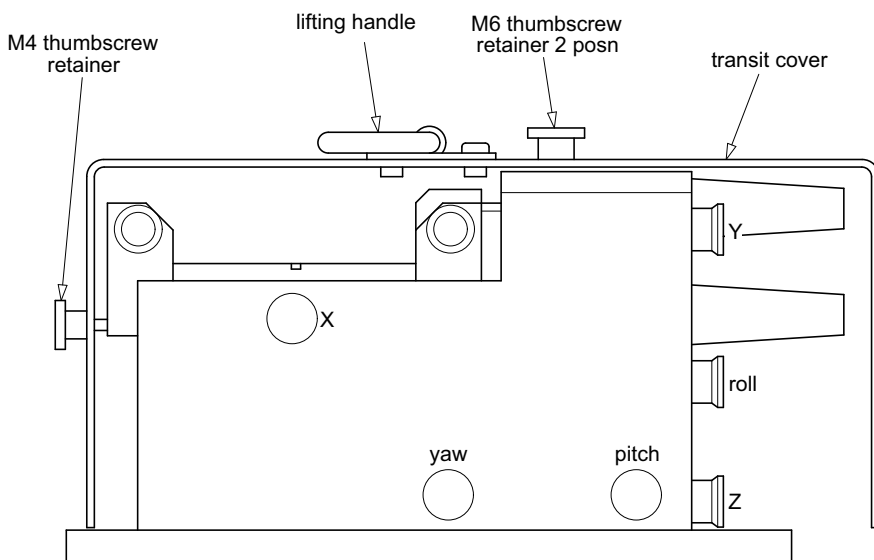

Fig. 4.1 Left-handed NanoMax with transit cover attached
- 4) Undo the three black plastic thumbscrew retainers – see Fig. 4.1.